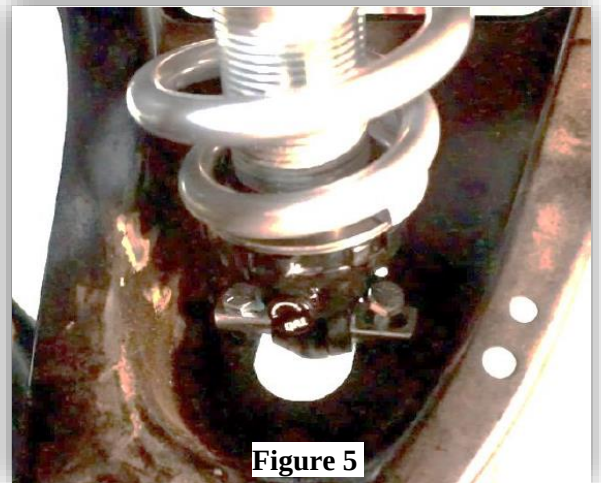

Figure 5
8. With a jack under the lower control arm, raise the lower control arm up to the lower shock mount. When installing onto factory control arms, knock the factory threaded inserts off the control arm and drill them out to 3/8". Attach the t-bar of the shock on the top side of the control arm with the supplied 3/8" bolts. **(Figure 5)**